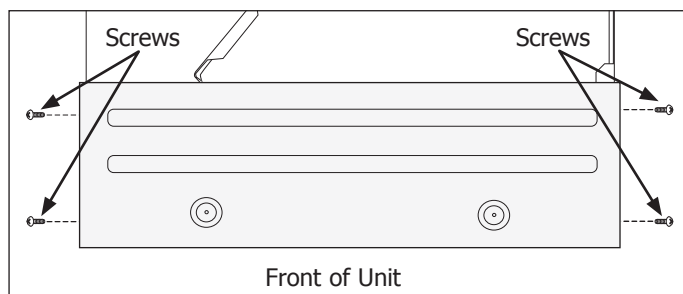

Figure 4-5. View from Top of Unit
3. Extract the screws securing the blower scroll front cover to the left and right upper sides of the unit. (See Figure 4-5)